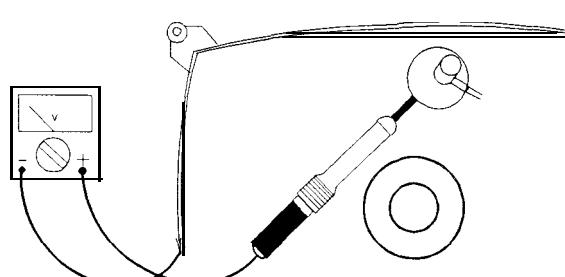

Fig. 3.1
2. In order to prevent damage to ICs and transistors, all high-voltage flashovers must be avoided. In order to prevent damage to the picture tube, it should be discharged using the method shown in Fig.3.1. Use a high-voltage probe and a multimeter (position DC-V). Discharge until the meter reading is OV (after approx. 30s).